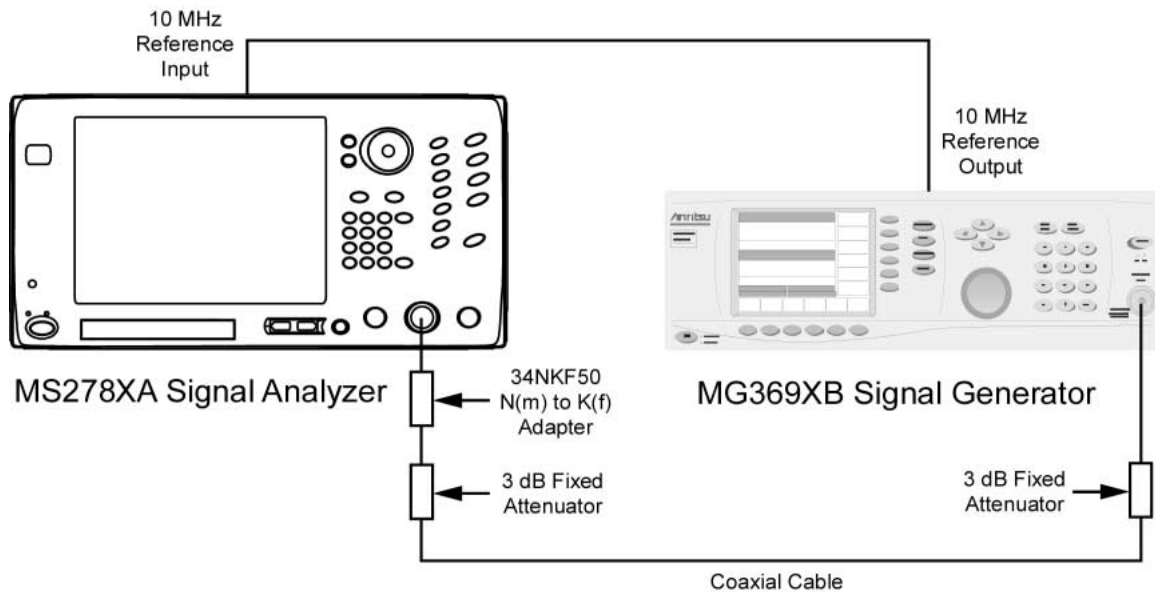

Figure 6-41. Equipment Setup for Frequency Readout Accuracy Test
- Step 1.** Set up the instruments as shown in Figure 6-41.